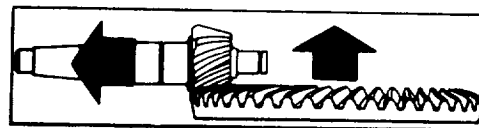

Figure 5-55B
4. LOW TOOTH CONTACT - A low contact indicates pinion is too deep. Set the pinion to the correct depth by adding shims under the pinion cage. Slight inward movement of the bevel gear may be necessary to maintain correct backlash. Fig. 5-55B shows adjustment of pinion or bevel gear to correct low tooth contact.